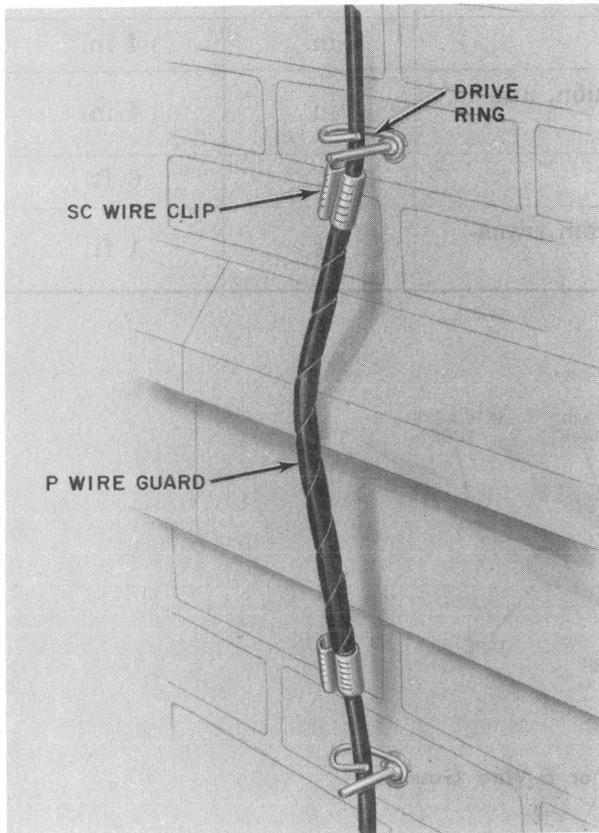

Fig. 3—Crossing Masonry Building Projection
**4.04** Fig. 3 through 12 are typical examples of wiring requiring protection.